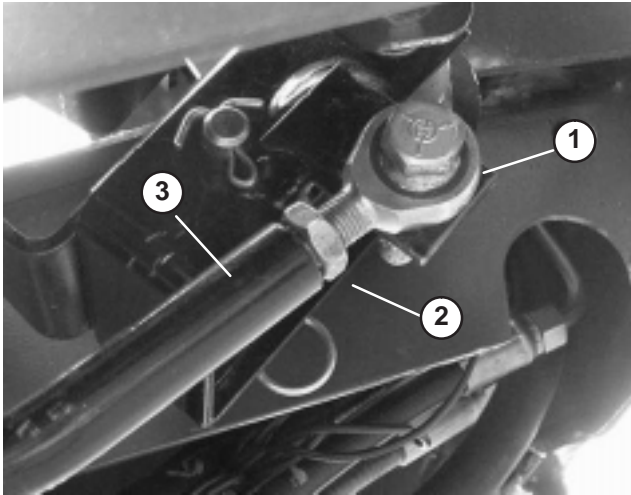

Figure 43
3. If more adjustment is required, adjust traction rod (Fig. 43) as follows: